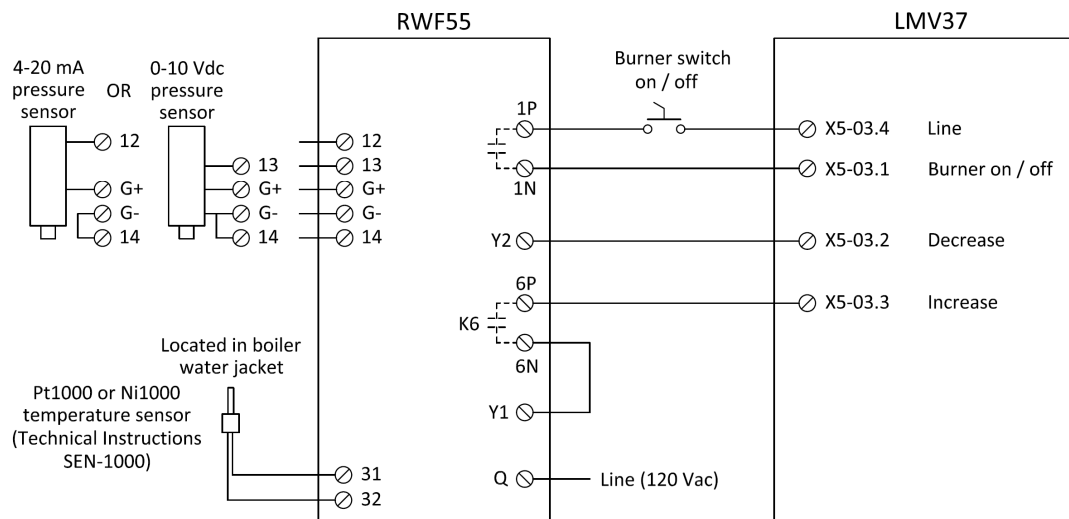

Figure 5: Low Fire Hold via 3-position Output on a Steam Boiler
2. Wire the LMV37 and RWF55 as shown in Figure 5: